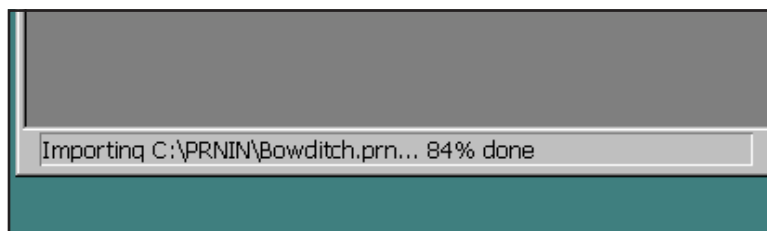

Figure 3-1
- Click **Import** in the main menu. PB FIRST begins importing the file as configured during installation and job setup or as modified during Advanced User Setup. In the lower left corner of the PB FIRST window in Microsoft® Access, a message monitors the progress of the import (Figure 3-1).